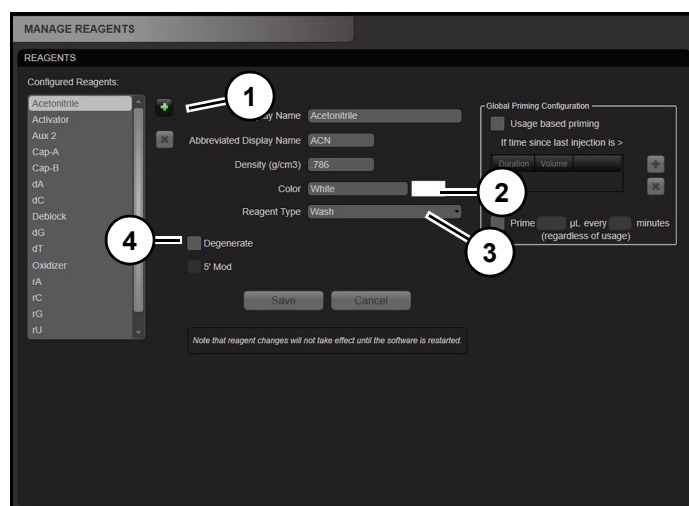

Figure 44
1. Click "+" (1) (Figure 44).
5. Click "OK" (4). Reagent will be added to configured reagents box.
6. Select reagent in reagent box to modify "Color" (2), "Reagent Type" (3) and "Degenerate" (4) reagent. if necessary. (Figure 44)